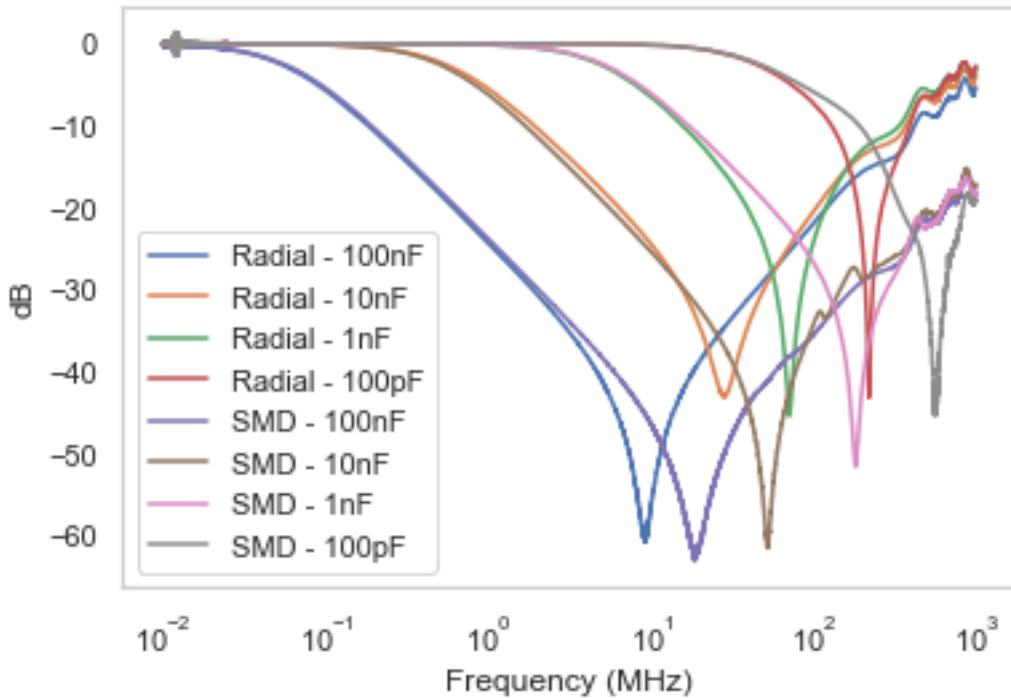

Figure 11: Package: The  $|S_{21}|$  parameter measured in  $dB$  for Radial Leaded and SMD capacitors (various capacitance values).
The measurements are shown in Figure 11.
**Answer:** So as we can see in Figure 11, for the same value of capacitance, SMD capacitors have a higher resonant frequency  $f_0$  than the corresponding Radial Leaded capacitors. This is attributed to the larger inductive loop created by the larger leads of the Radial Leaded capacitors which leads to a higher value of  $L_{lead}$  and thus to a larger stray inductance (as can be verified from the measurements in the above question) and a smaller value of  $f_0$ .